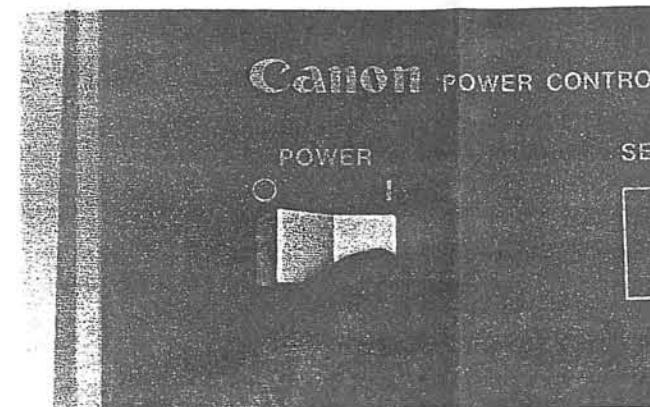

Fig. 31
1. Turn on the POWER switch on the power control unit by pressing it on the I side. (Fig. 31) The charge-up lamp on the power control unit lights. This lamp lights when flash intensity selector switches are pressed, and when each charge up is completed.